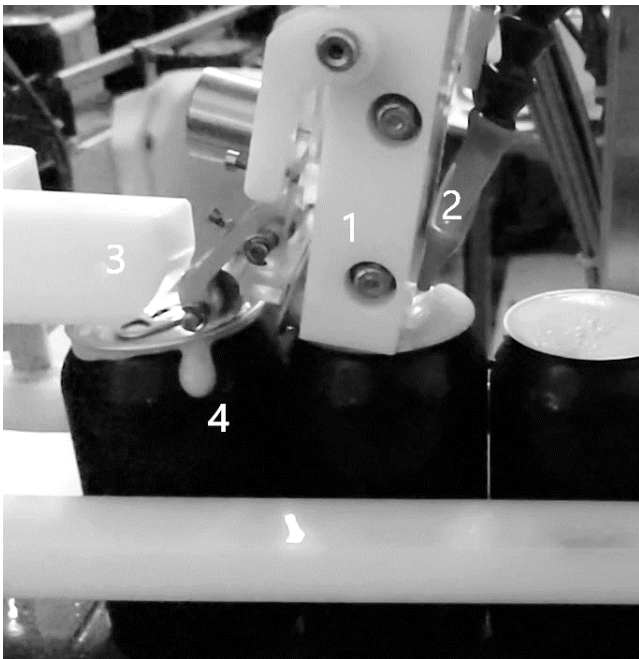

Figure 1. A canning line: 1 = lid drop; 2 = pre-lid-drop CO₂ purge; 3 = lid tapper; and 4 = foam pushed out from under the lid.
- The first area that should be examined is the foam cap. The foam cap is the only barrier between the beer and oxygen between filling and lid application. It is important that the beer foams enough to make a cap that is pushed off when the lid drops (Fig. 1). By pushing the foam off, the beer that came in contact with the oxygen will be removed from the final product. There is a balance between creating enough foam to protect the beer and getting too much breakout, such that the finished package is under-filled. The style of beer, its packaging temperature, and its carbonation level will all have significant influence on foam production. For example, dry-hopped beers will break out more easily than a lager, and colder beers will not break out as much as warmer beers. The right combination of carbonation, style, and temperature will be different for each brand, and it will require trial and error to find the right level of foam produced. Unfortunately, a combination that works on one line may not work on another, so there is no universally correct answer.